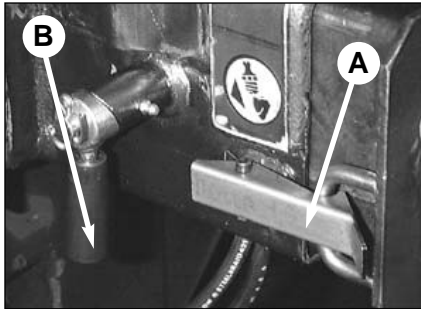
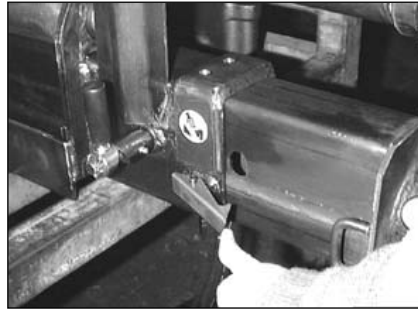

fig. 8
fig. 8a
Identification data of the supplementary beam is punched on the beam (fig. 8) in the following sequence:
- Position the lever **B** of the locking device (fig. 8), placed on the base, upwards (fig. 8a); the spring loaded security pin of the device will be released from it's position.
- Release the locking device (fig. 8a) bringing it to the outside of the hook spring **A** and simultaneously pull, extending from the base the outrigger support.